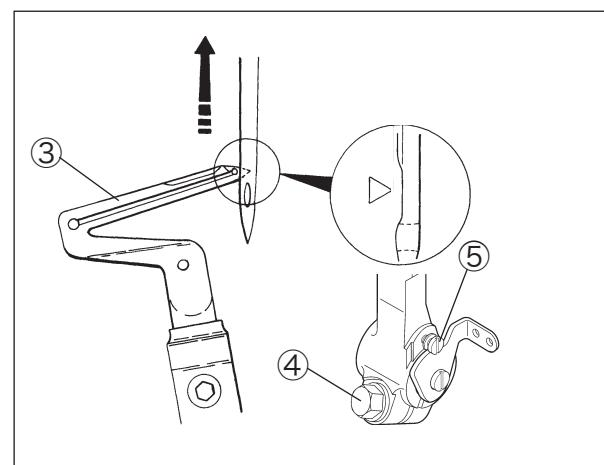

Fig. 2-5
1. After checking the needle heights, tighten screw ① of the needle bar bracket. (Refer to page 2 "2.1.1 Height of needle")
3. Once the front-and-rear position of the lower looper has been adjusted, check the distance between the needle and the lower looper, then tighten screw ④ in Fig. 2-5.
4. Apply the liquid packing to the thread of the screw ② when tightening it.